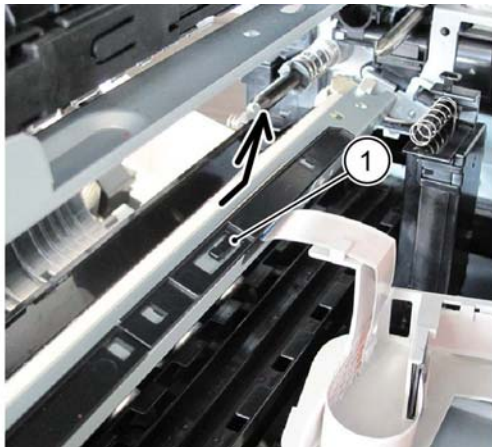

Figure 3 CRU guide removal
5. Pull up the tab (1), move the CRU guide toward the rear, then remove it, Figure 3.